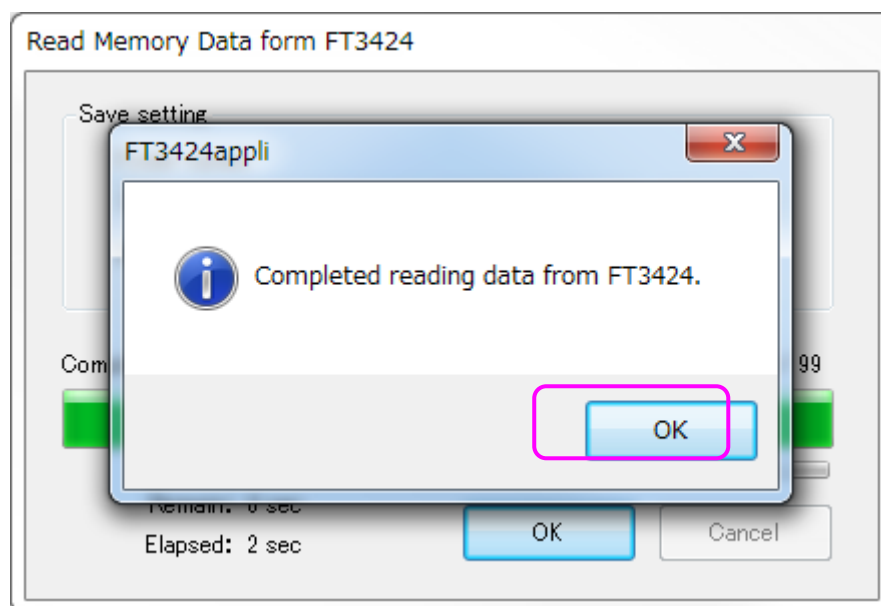

Fig.3-25
(4) If the following dialog appear, click [OK]. (Fig.3-25)